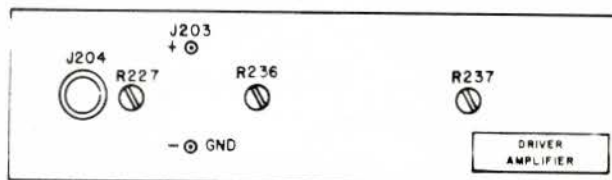

Figure 4. Calibration Voltage Control, Rear of Driver Amplifier.
c. Locate the +80V ADJ control R236 at the Driver Amplifier rear. See figure 4.